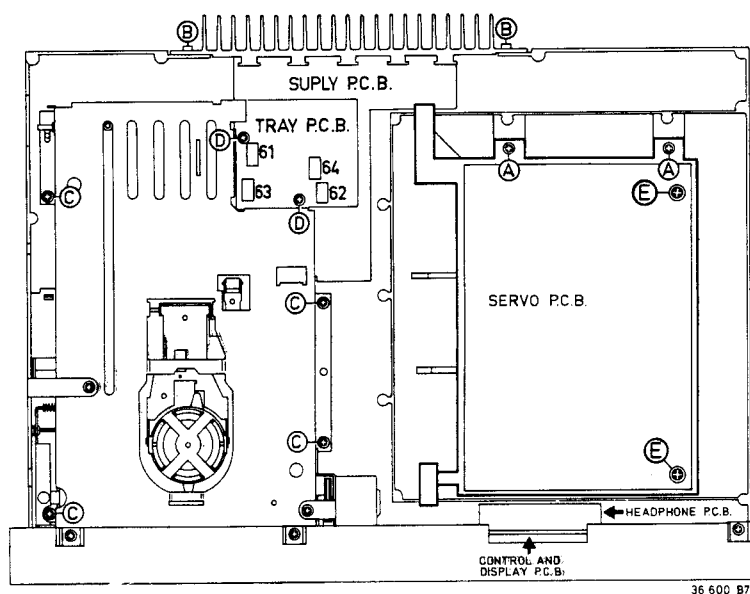

Fig. 3a
- Remove the 2 screws B (see Fig. 3a).
### SERVICING THE SERVO PCB AND THE DECODER PCB (see Fig. 3a)
- Remove the 4 screws C (see Fig. 3a).